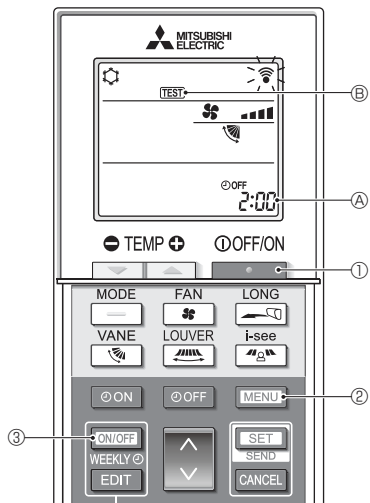

Fig. 6-1
6.1. Test run (Fig. 6-1)
- Press the **OFF/ON** button ① to stop the air conditioner.
- If the weekly timer is enabled (**WEEKLY** is on), press the **ON/OFF WEEKLY** button ③ to disable it (**WEEKLY** is off).
- Press the **MENU** button ② for 5 seconds.
- Press the **MENU** button ②.